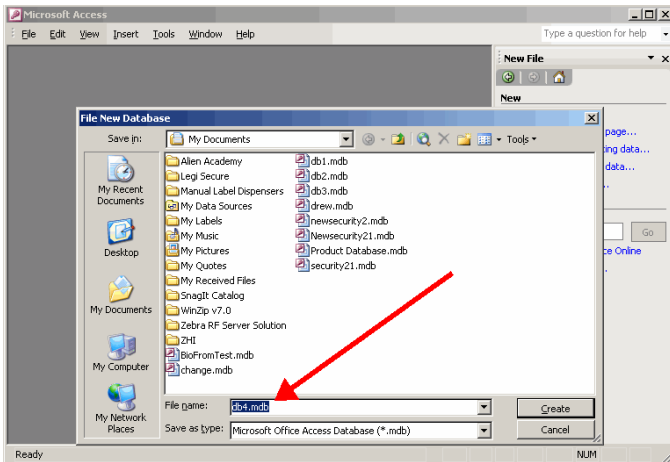
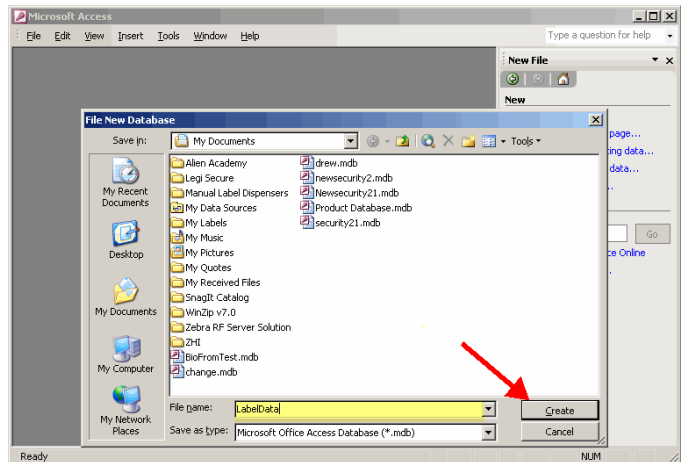

Figure 2-4a
Figure 2-4b
2.2.5. Change the default database name to a meaningful name (e.g. “*LabelData*”) in the **File New Database** dialog box, (Figure 2-4a) and click [**Create**]. (Figure 2-4b)